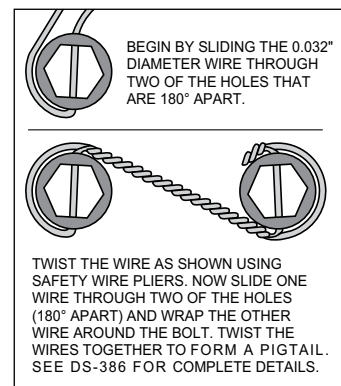

Figure 3
STEP 4 Orient the rotor (6) and the hat (7) as shown in Figure 1 and Photo 3. Attach rotor to hat using bolts (8) and washers (9). Apply red Loctite® 271 to the bolt threads and torque to value shown in Figure 1 using a criss-cross pattern. For an added measure of security, the bolts may be safety wired using standard 0.032 inch diameter stainless steel safety wire as shown in Figure 3. Refer to Wilwood's data sheet DS-386 (available at www.wilwood.com/Pdf/DataSheets/ds386.pdf) for complete safety wire installation instructions.